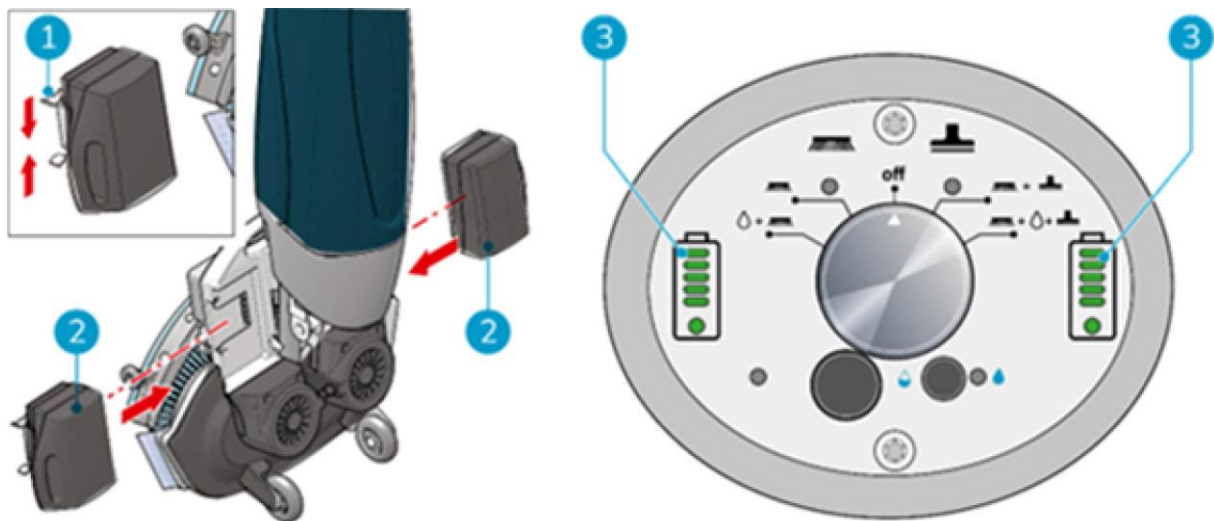

Figure 14
3. Push the blue coded battery (Figure 14, pos 2) in the blue battery slot. A click indicates that the battery is locked in place (Figure 14, pos 1).
5. During operation, the battery indicators (Figure 14, pos 3) on the control panel show the amount of power left.